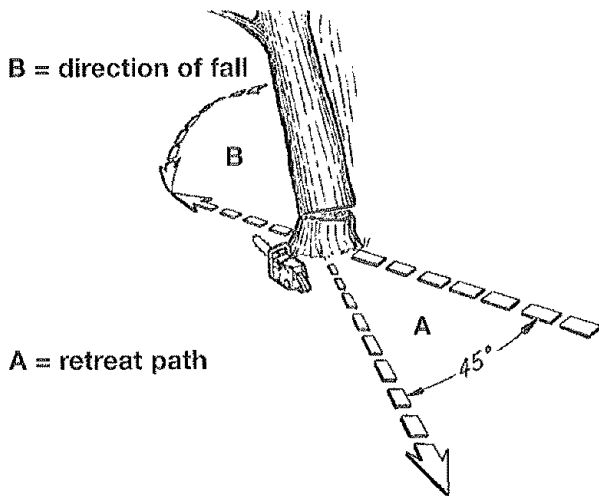

Fig. 12
WARNING: A retreat path (A) should be planned and cleared as necessary before cuts are started. The retreat path should extend back and diagonally to the rear of the expected line of fall, as illustrated in Fig. 12.
WARNING: As the felling cut gets close to the hinge, the tree should begin to fall. When tree begins to fall, remove saw from cut, stop engine, put chain saw down, and leave along retreat path (A). (Fig. 12)